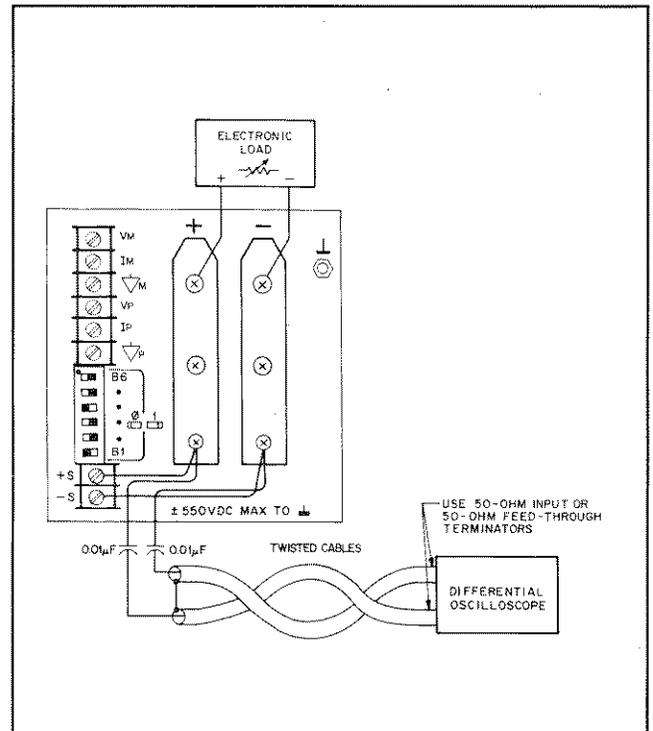

Figure 5-4. Peak-to-Peak Measurement Test Setup, CV PARD Test
Test Points: See Figure 5-4
- Connect the test equipment as shown in Figure 5-4. Operate the electronic load in constant resistance mode (Amps/Volt) and set resistance to maximum.